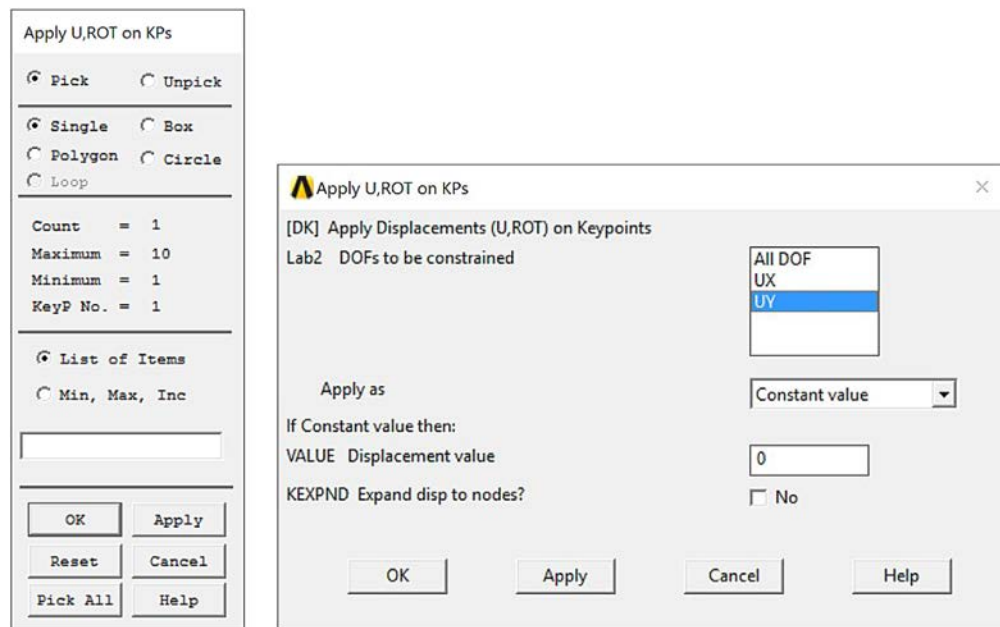

Figure 2-1-13 Applying Keypoint Constraints in Y.
- Click OK (Figure 2-1-13, left)
- In the “Lab2 DOFs to be constrained” field choose UY (Figure 2-1-13, right)